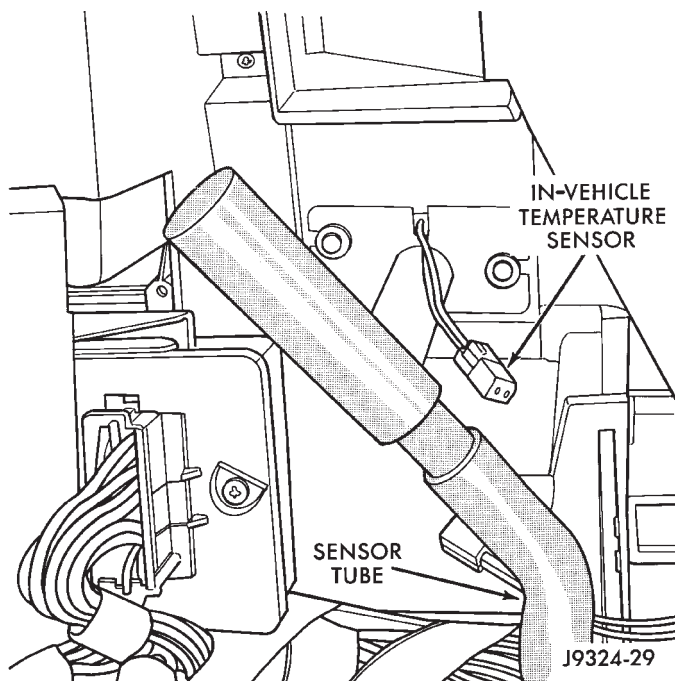

Fig. 30 In-Vehicle Temperature Sensor
- (1) Remove the instrument panel (refer to Group 23, Body).
(2) Disconnect the sensor tube from the sensor assembly and the heater-A/C unit (Fig. 30).
(3) Remove the sensor assembly screws from the instrument panel bracket. Remove the sensor assembly.
(4) Disconnect the in-vehicle temperature sensor from the sensor assembly (Fig. 30).